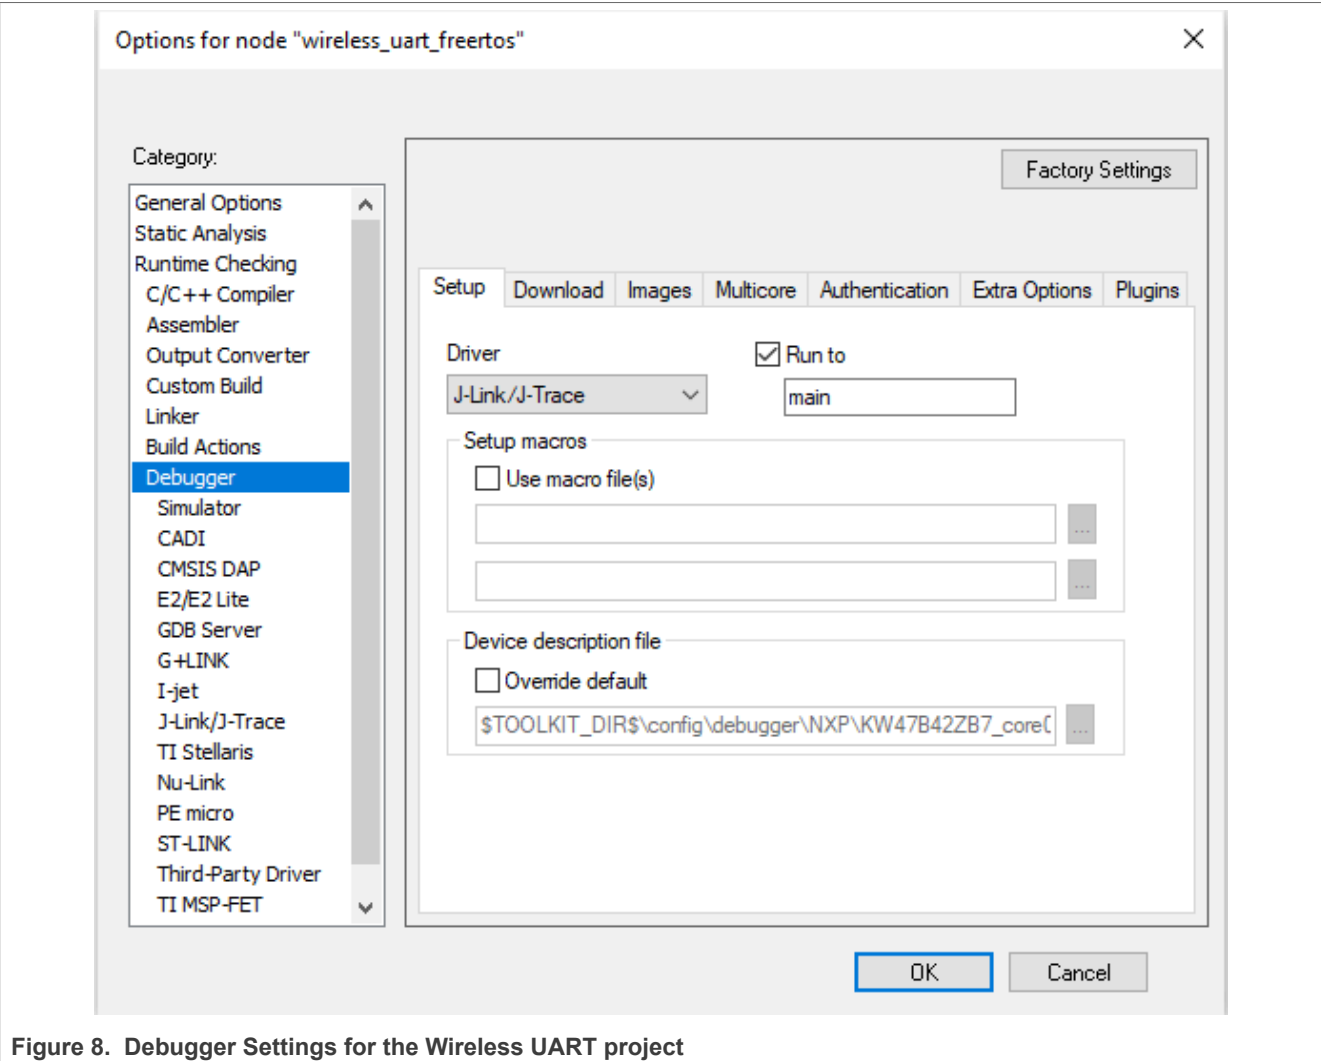

Figure 8. Debugger Settings for the Wireless UART project
5. Make the appropriate debugger settings in the project options window, as seen in Figure 8.